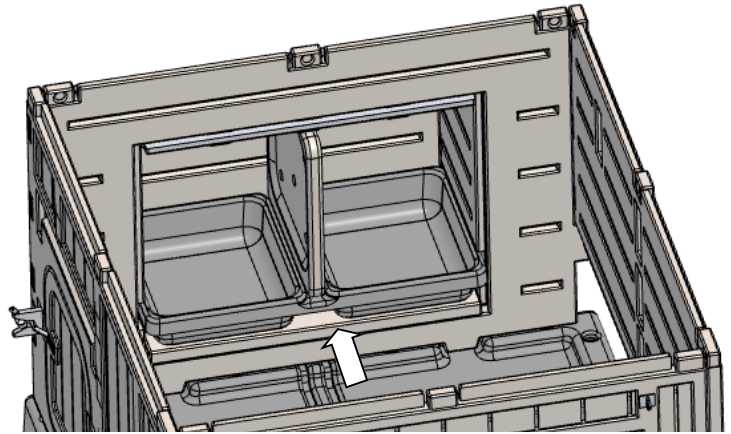

Fig. 9
**Step 9:** From inside the coop, slide the Nest Tray into the Nest Box, underneath the Nest Divider. (Fig. 9)